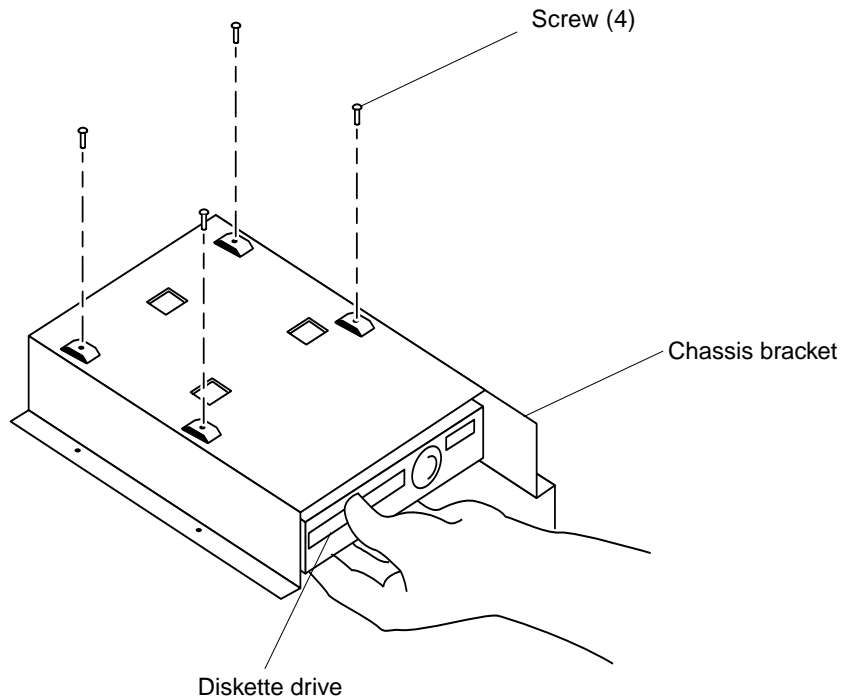

FIGURE 9-11 Positioning the Diskette Drive
1. **Position the diskette drive in the chassis bracket (FIGURE 9-11).**